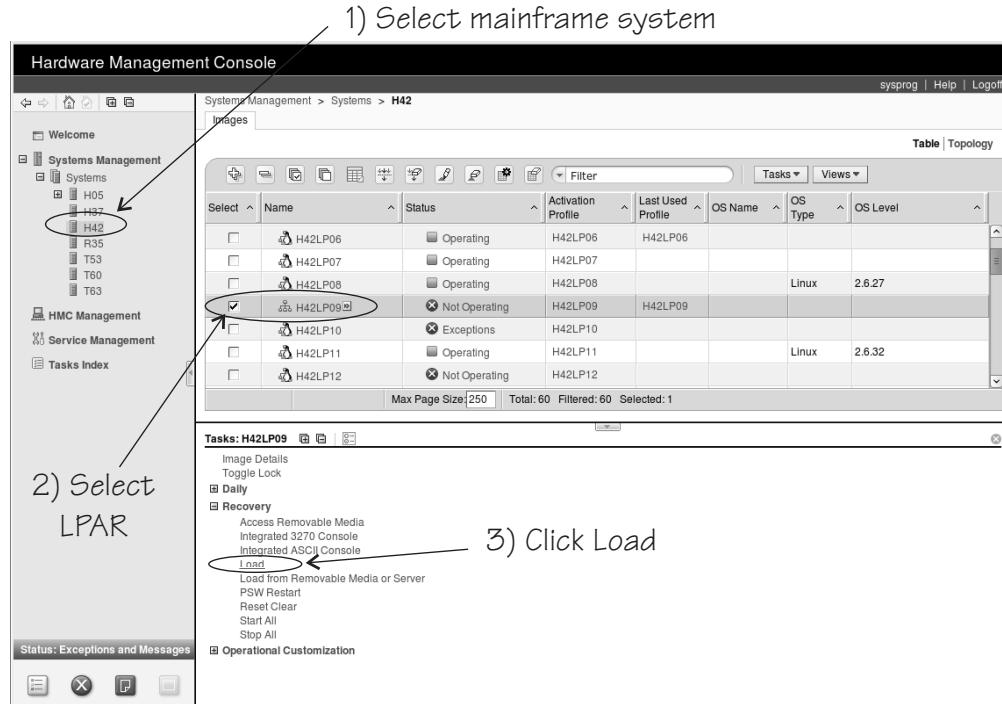

Figure 64. Load task on the HMC
3. In the **Tasks** area, expand **Recovery** and click **Load** (see Figure 64).